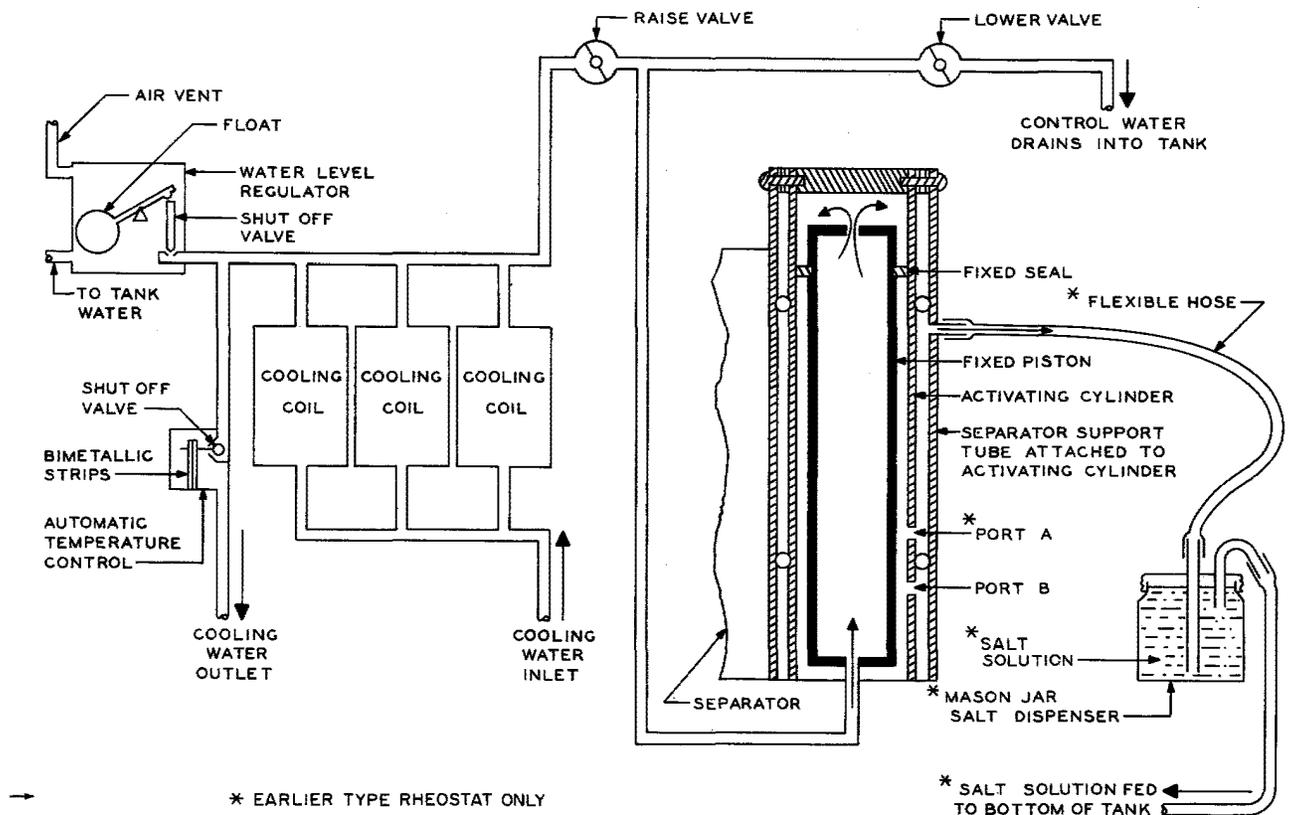

Fig. 17 - Cooling and Hydraulic System of R-3104 120-KW Water Rheostat - Schematic Diagram
6.18 The city water circulates through the cooling coil, extracting the heat dissipated by the electrodes which are immersed in the barrel water, see Fig. 17. A cooling-water flow regulator located in the outlet line restricts the flow of cooling water. At 60 F the water is shut off or reduced to a trickle. As the temperature of the water in the tank reaches approximately 180 to 190 F, a full flow of circulating water through the cooling coils is obtained, thereby causing a balanced condition of temperature and load. A water level regulator is also used. This automatically maintains the proper water level in the barrel, by a float and valve device to replace the water lost by evaporation.
6.23 The circuit of the remote control unit is so designed that the R and L valves are always held closed. If either of the R or L toggle switches is held in position, that particular valve will open and raise or lower the separators respectively. By holding the R toggle switch in R position, the RAISE valve will open and allow the city water, which is available under pressure at one side of the RAISE valve, see Fig. 17, to flow through the hollow fixed piston and cause the activating cylinder to move upward. The separators are mounted to the support tube which is attached to the activating cylinder. If the R toggle
maximum height is reached, port A of the activating cylinder rises above the sliding seal of the fixed piston, causing the water to move through port A and into the salt dispenser through a flexible tube. The sodium-carbonate or sodium-chromate solution, which is in the jar attached to the tube, will overflow and feed the solution into the barrel at the bottom of the tank. To prevent the separator assembly from rising excessively, port B will expel the water back into the tank. This safety device is used in the event that port A or one of the salt dispenser tubes should become plugged or blocked. See Fig. 17.